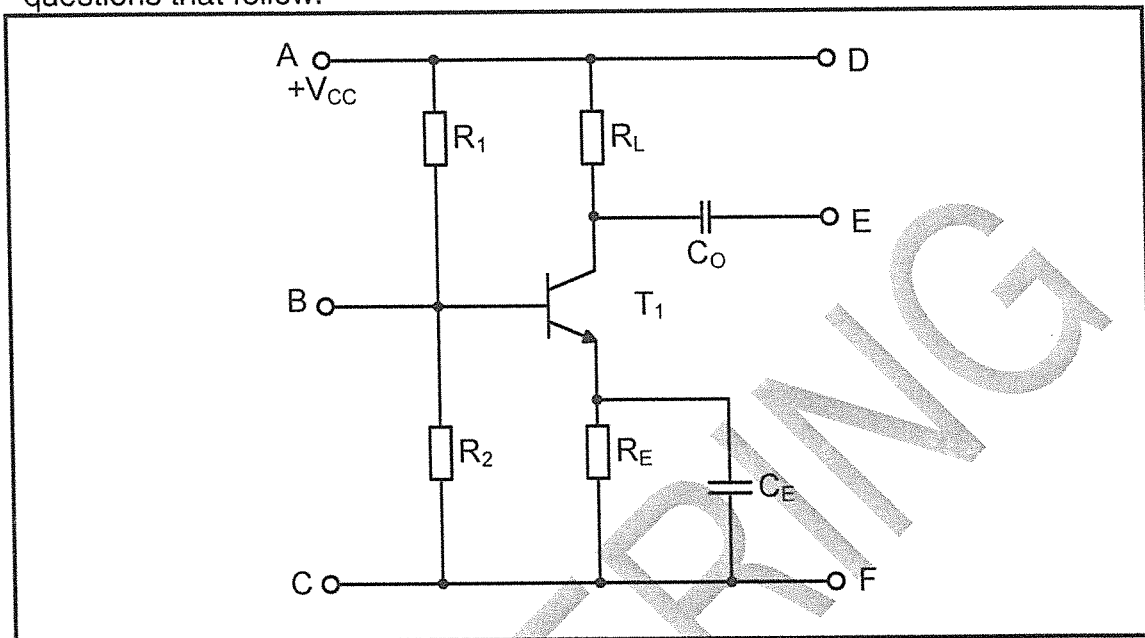

FIGURE 10.2: AMPLIFIER
10.2 In FIGURE 10.2 below, study the sketch of the circuit and answer the questions that follow.